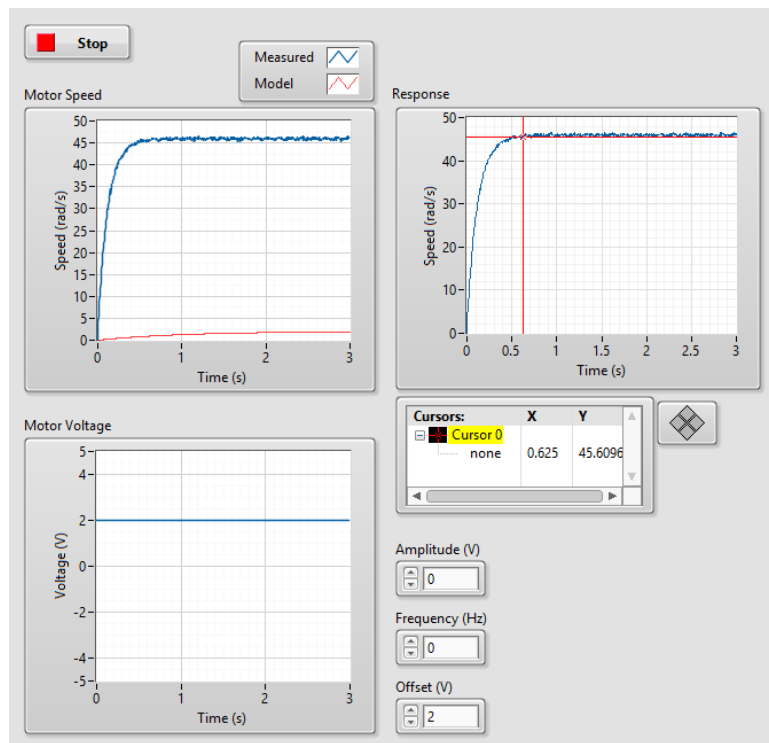

Figure 7: DC motor response to a constant input voltage
5. The load disc should begin rotating in one direction and stop after 3 seconds. Your results should be similar to Figure 7, which shows the input motor voltage as well as the actual response of the plant. Take a screenshot of your results. Alternatively, you can right-click on any of the LabVIEW graphs and select **Export >> Export Simplified Image** to save the presented data to a bitmap image file.